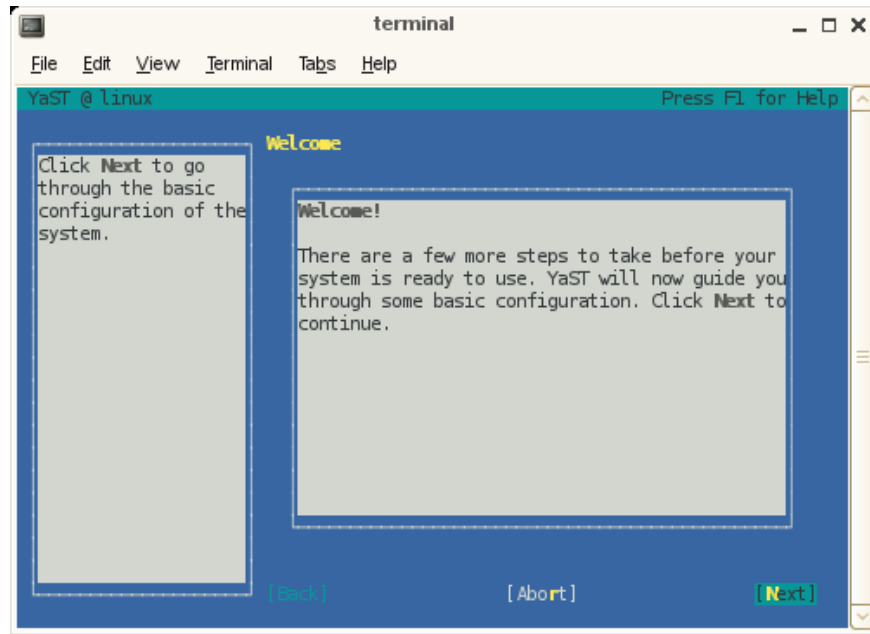

Figure 2-2 YaST **Welcome** Screen
6. After the reboot completes, the YaST first boot installation tool starts and a **welcome** screen appears, as shown in Figure 2-2 on page 35. Click on the **Next** button to proceed.